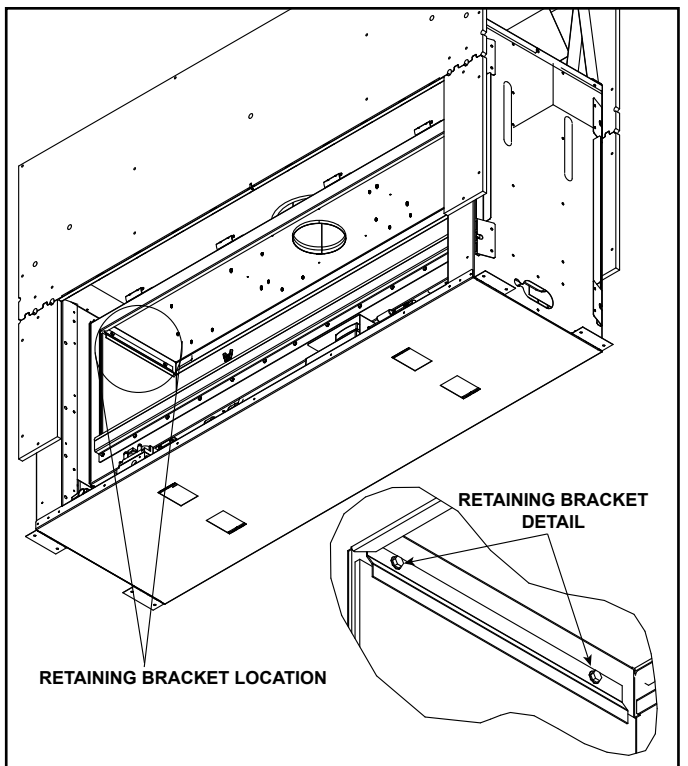

Figure 11.7. Retaining Bracket Installation - See-Through Models
5. Bend the tab on the glass bracket toward the side glass panel until a 1/16 inch - 1/8 inch gap is created between the tab and the side glass panel. See Figure 11.7.
2. Place retaining bracket over glass panel so holes in the bracket are against the firebox side. Use two self-drilling screws to secure the bracket to the firebox side. See Figure 11.7.